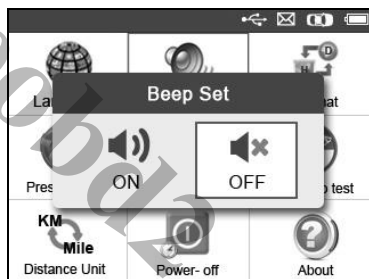

Figure 3.4
- 2) From **Beep Set** menu, use the **LEFT/RIGHT** scroll button to select **ON** or **OFF** to turn on/off the beep.(Figure 3.4)